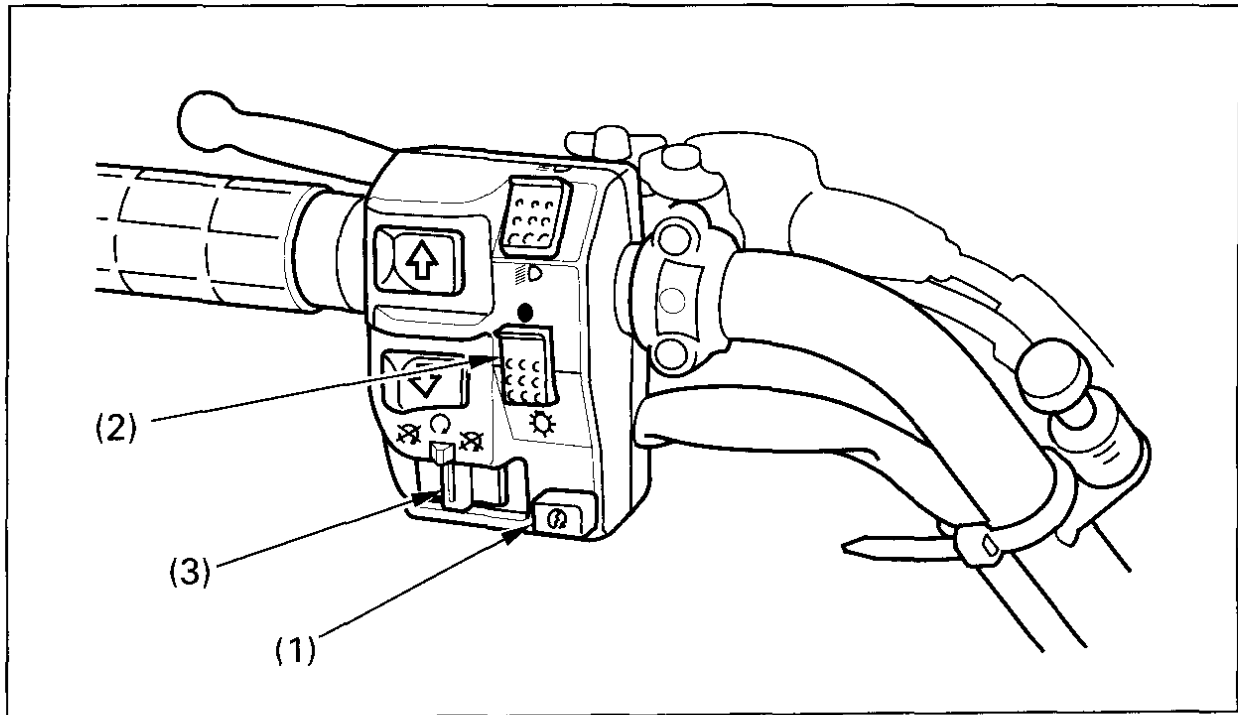

Fig. 2-8
The starter button (Fig. 2-8) is below the headlight switch (2). To start the engine, press the starter button (1), with the transmission in neutral, the ignition switch ON (I) and the engine stop switch (3) at RUN (O).